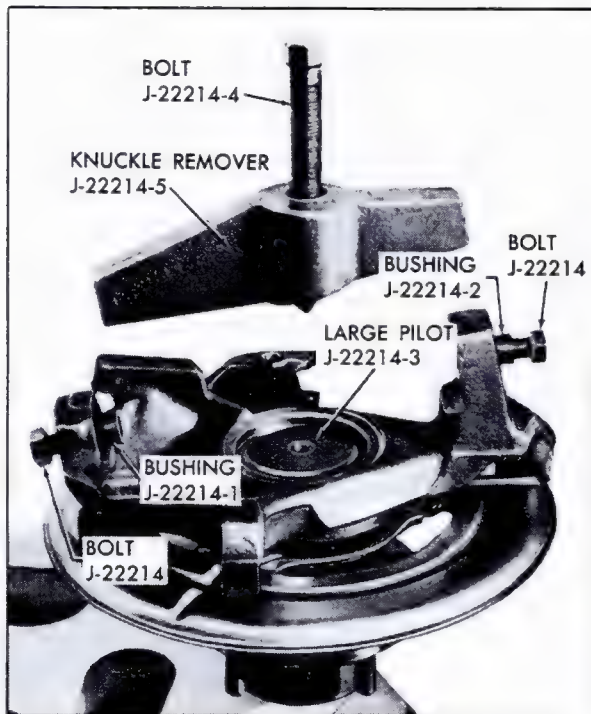

Fig. 3-34 Hub and Bearing Removal Tools (Assembly)
b. Disassembly (Figs. 3-34, 3-37)
5. Install Large Pilot, J-22214-3, on inner end of hub, Fig. 3-34.
6. Install Knuckle Remover, J-22214-5, between upper and lower ends of steering knuckle, Fig. 3-34.